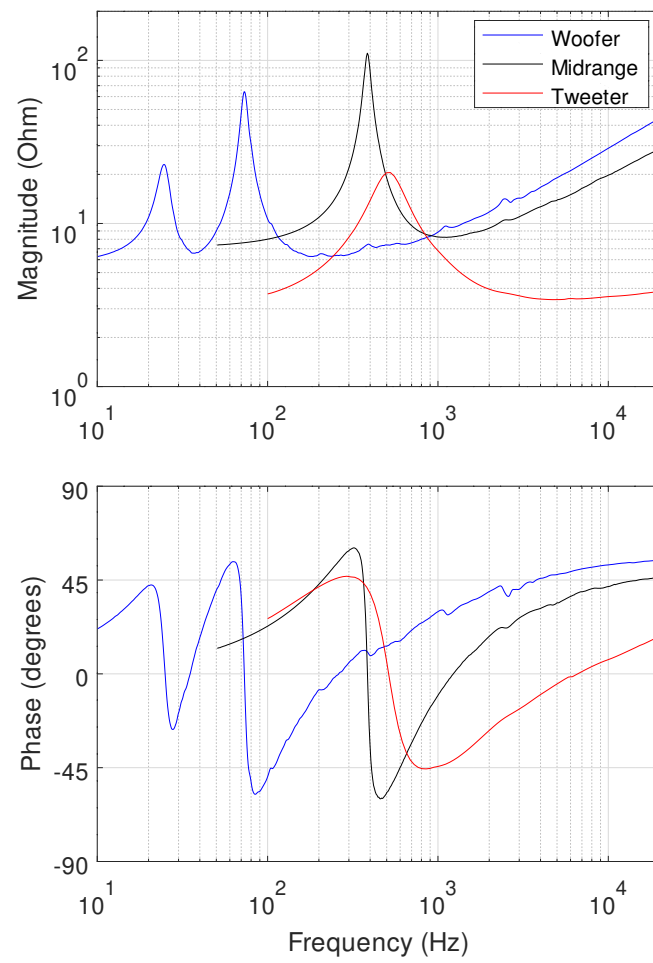

Figure 1: Impedance curves of the drivers mounted in the OSMC box (magnitude and phase).
*** driver impedance curves: See Fig. 1 Use for crossover modelling. Discuss bass tuning.